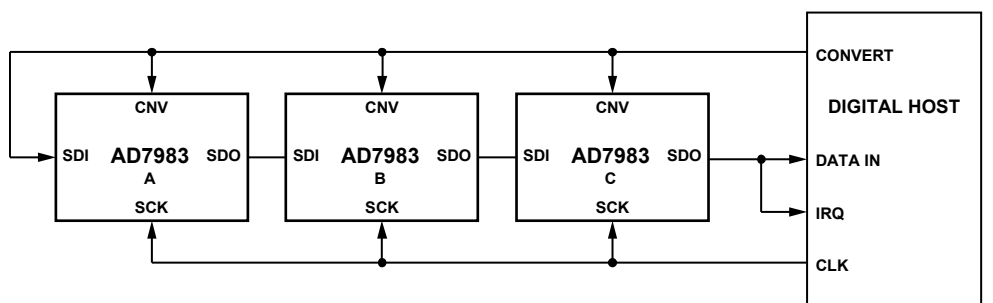
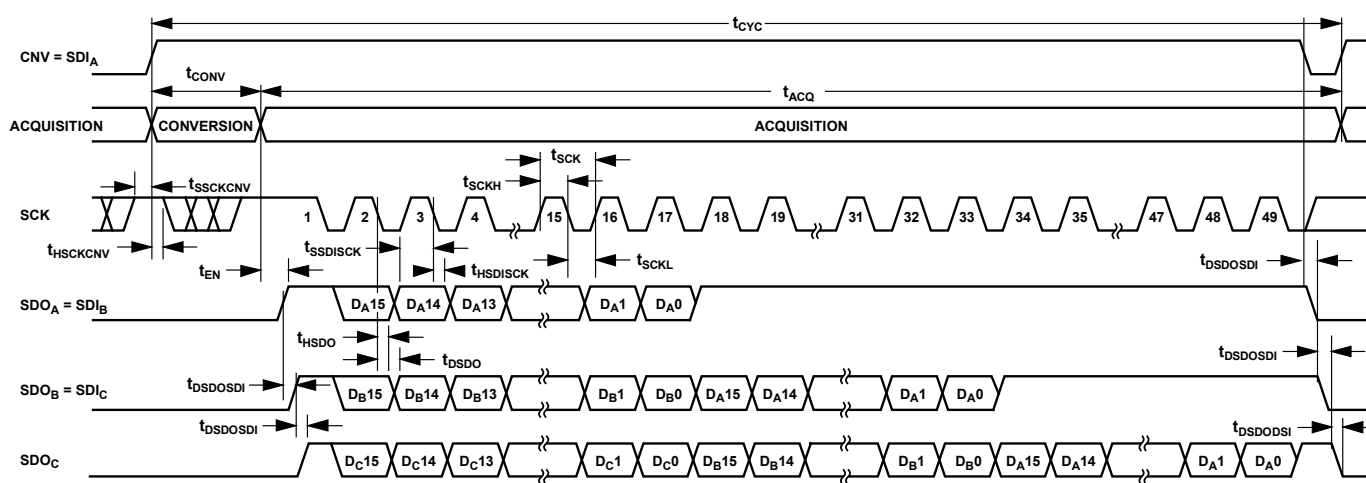

Figure 36. Chain Mode with Busy Indicator Connection Diagram
Figure 37. Chain Mode with Busy Indicator Serial Interface Timing
- In chain mode if SCK is high during the CNV rising edge (see Figure 37).
A connection diagram example using three AD7983s is shown in Figure 36, and the corresponding timing is given in Figure 37.
When SDI and CNV are low, SDO is driven low. With SCK high, a rising edge on CNV initiates a conversion, selects the chain mode, and enables the busy indicator feature. In this mode, CNV is held high during the conversion phase and the subsequent data readback. When all ADCs in the chain have completed their conversions, the SDO pin of the ADC closest to the digital host (see the AD7983 ADC labeled C in Figure 36) is driven high. This transition on SDO can be used as a busy indicator to trigger the data readback controlled by the digital host. The AD7983 then enters the acquisition phase and goes into standby mode. The data bits stored in the internal shift register are clocked out, MSB first, by subsequent SCK falling edges. For each ADC, SDI feeds the input of the internal shift register and is clocked by the SCK falling edge. Each ADC in the chain outputs its data MSB first, and $16 \times N + 1$ clocks are required to readback the N ADCs. Although the rising edge can be used to capture the data, a digital host using the SCK falling edge allows a faster reading rate and, consequently, more AD7983s in the chain, provided the digital host has an acceptable hold time.